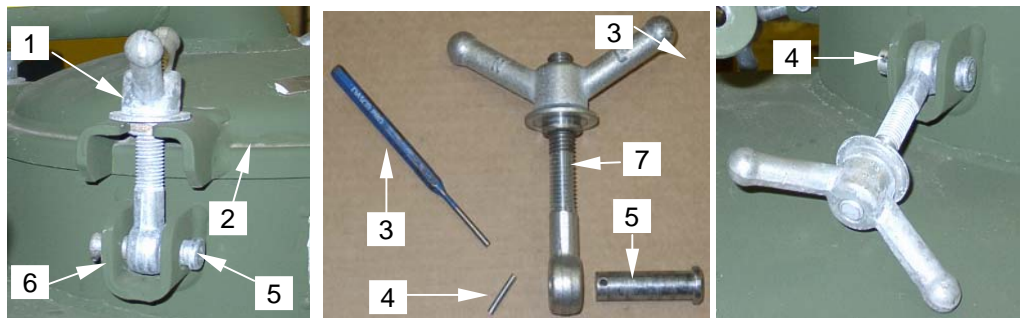

Figure 6. Replacing Wing Nut Assembly
- a. Loosen wing nut assembly (**figure 6, item 1**) to be replaced and move it off the portal lid (**figure 6, item 2**).
- b. Using a $\frac{5}{32}$ -inch punch (**figure 6, item 3**), remove the lock pin (**figure 6, item 4**) from the wing nut assembly hinge pin (**figure 6, item 5**).
- c. Remove the hinge pin (**figure 6, item 5**) from the portal lid collar bracket (**figure 6, item 6**) and wing nut assembly eyebolt (**figure 6, item 7**).
- d. Position new wing nut assembly eyebolt (**figure 6, item 7**) into the portal lid collar bracket (**figure 6, item 6**) and insert hinge pin (**figure 6, item 5**) through the bracket and eyebolt.
- e. Install the lock pin (**figure 6, item 4**) into hinge pin (**figure 6, item 5**). Place wing nut assembly (**figure 6, item 1**) onto portal lid (**figure 6, item 2**) and tighten.